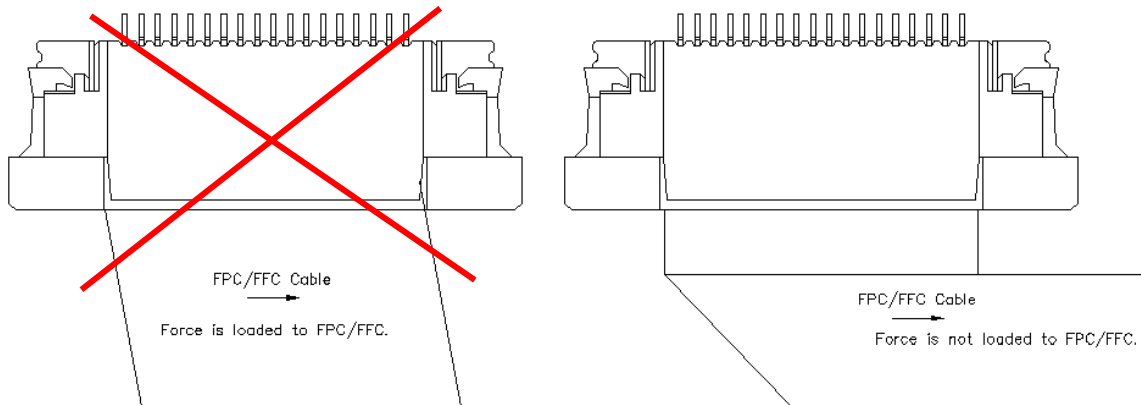

Figure 7.
- If necessary, please fix the FPC/FFC directly on the chassis. Also, please avoid pulling the FPC/FFC vertically or twisting the FPC back and force horizontally while it is inserted in the connector(see figure 7).
- Forming processing is conducted to FPC so as not to load force to connector. (see figure 7).